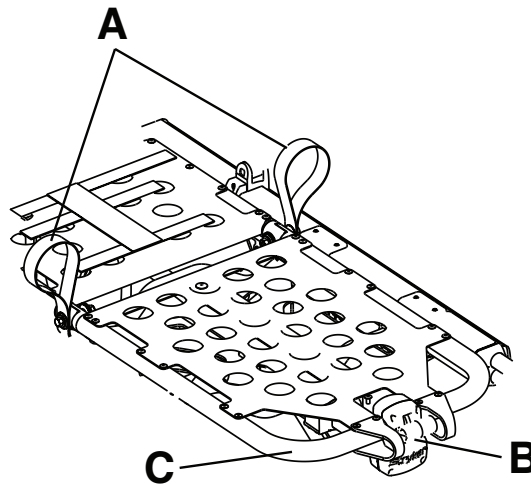

Figure 13 – Gatch
1. Lift either of the red lifting loops (A) until the knee Gatch is in the highest position (Figure 13).